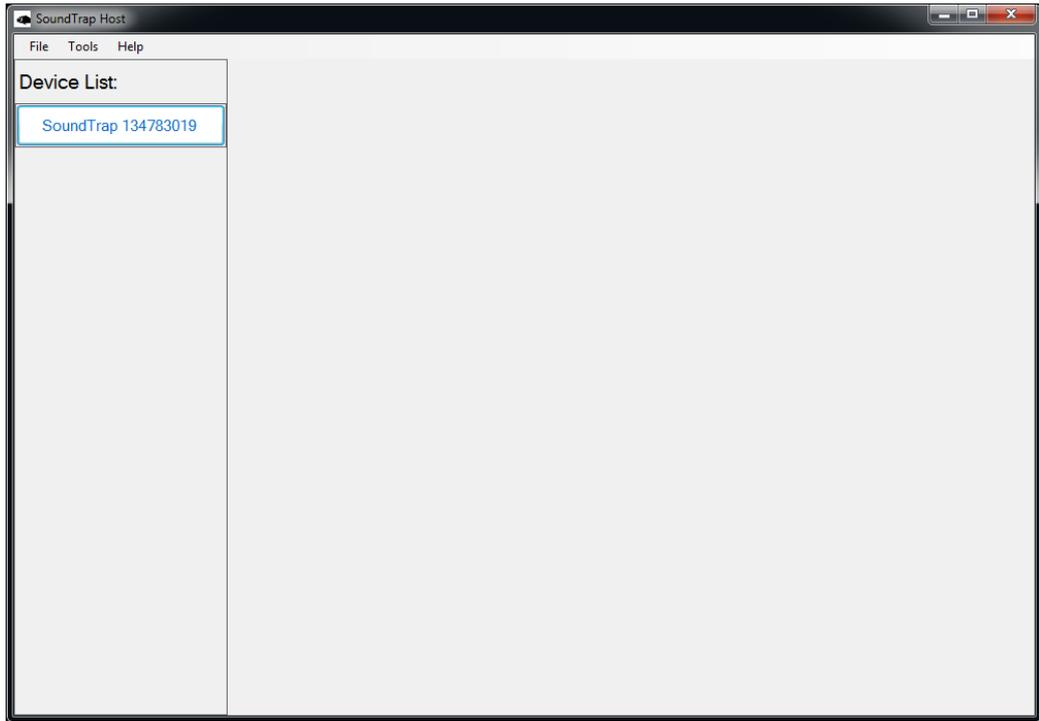

Figure 3 - The Device List
- The drivers will take a couple of minutes to install. Once complete you should see your SoundTrap appear in the 'Device List' on the left, as shown in figure 3.